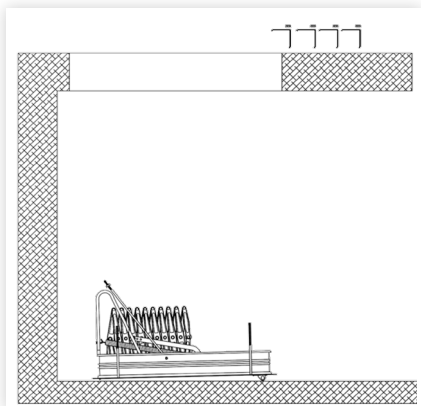

figure 7
1. By means of a step ladder, leave the 4 top-fixing brackets with their M10 nuts up into the attic space. (Figure 7)